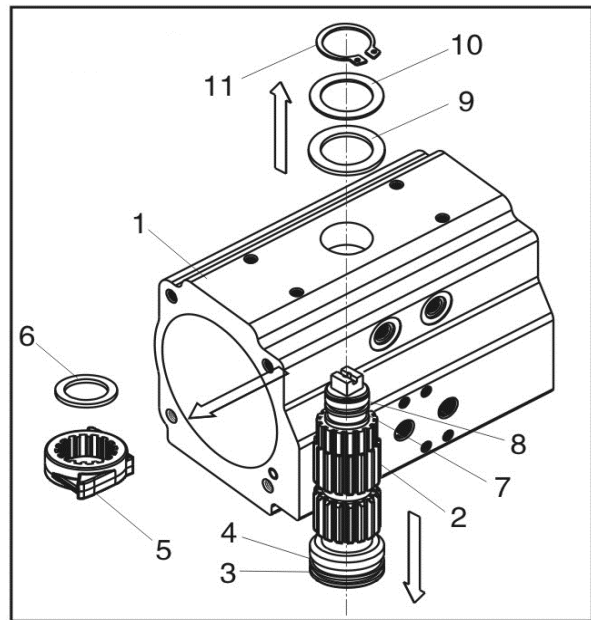

Fig. 7
5) Shown in Fig. 7, use a snap ring pliers to remove (#11) the snap ring from top of output shaft; followed by (#10) S.S. Washer & (#9) Nylon bushing/washer.